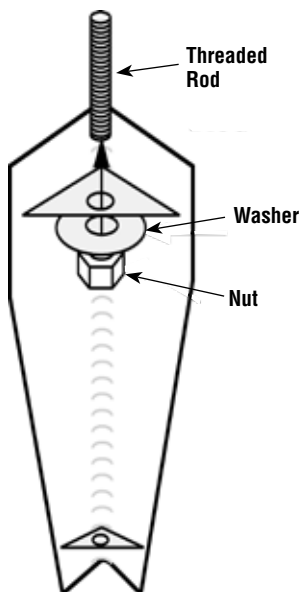

Figure 1
2. Mount all four legs as shown in **Figure 1**.